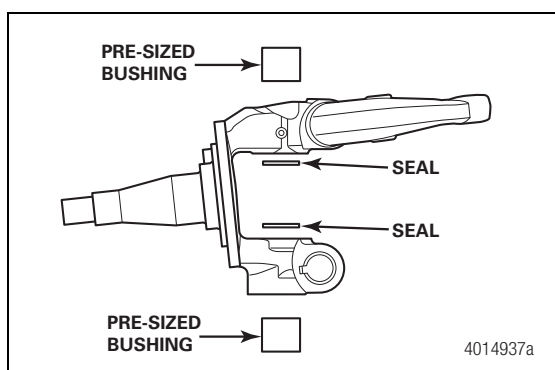
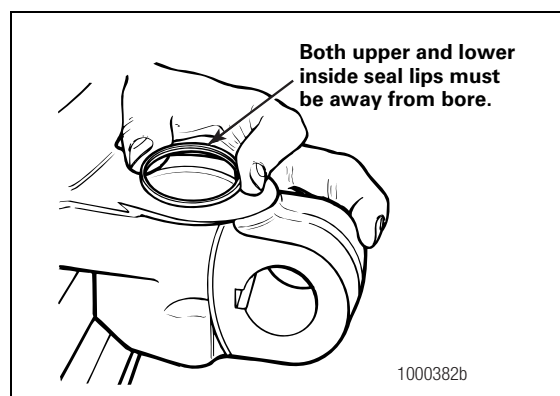

Figure 2
Figure 3
2. Using an appropriate driver, install the new pre-sized bronze bushings in from the top and bottom of the knuckle. Figure 2.
3. Install the upper and lower grease seals so that the seal lip “V”s all open away from the bores. Seals must be even with the machined surface of the knuckle bores. Figure 3 and Figure 2.